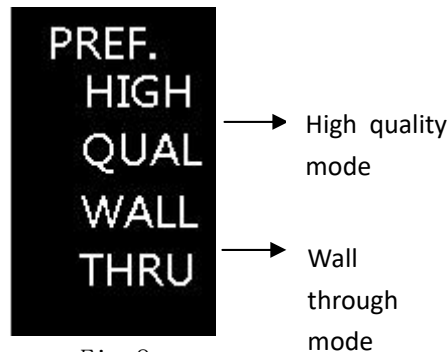

Fig. 8
1. The menu content of transmitter and receiver is different: Quality mode and wall through mode can only be selected in transmitter, see fig.8